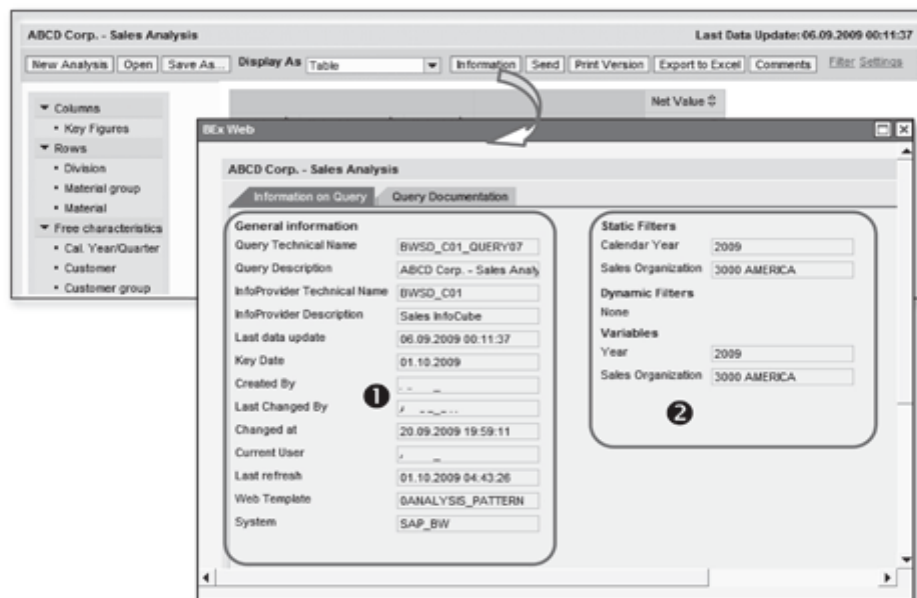

Figure 10.45 BEx Web Analyzer Function – Information
- **Information:** This button displays the information about the data provider used in the analysis. Apart from the metadata corresponding to the data provider (❶ of Figure 10.45), the information screen also displays the current state of filters on the data provider. This includes static filters, dynamic filters, and restrictions applied to the data provider using variables (❷).